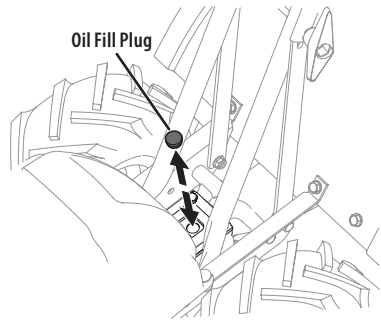

Figure 21
3. Clean the area around the oil fill plug. See Figure 21.
4. Remove the oil fill plug from the transmission housing and look inside the oil fill hole to locate the main drive shaft situated below the hole. See Figure 21.